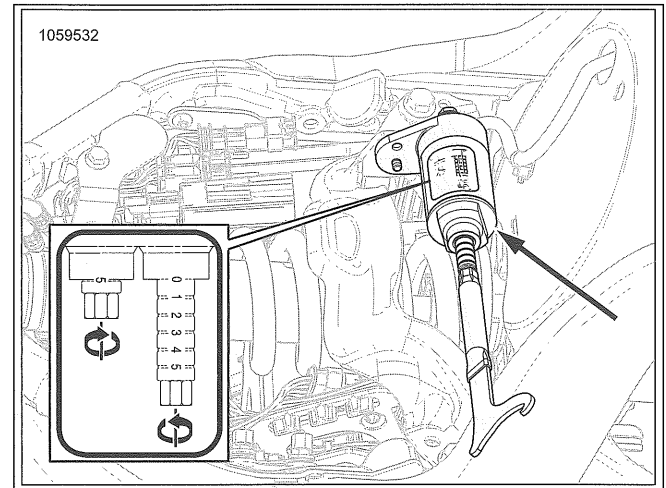

Figure 2-40. Preload Adjustment Screw
3. Hydraulic under seat: See Figure 2-40.